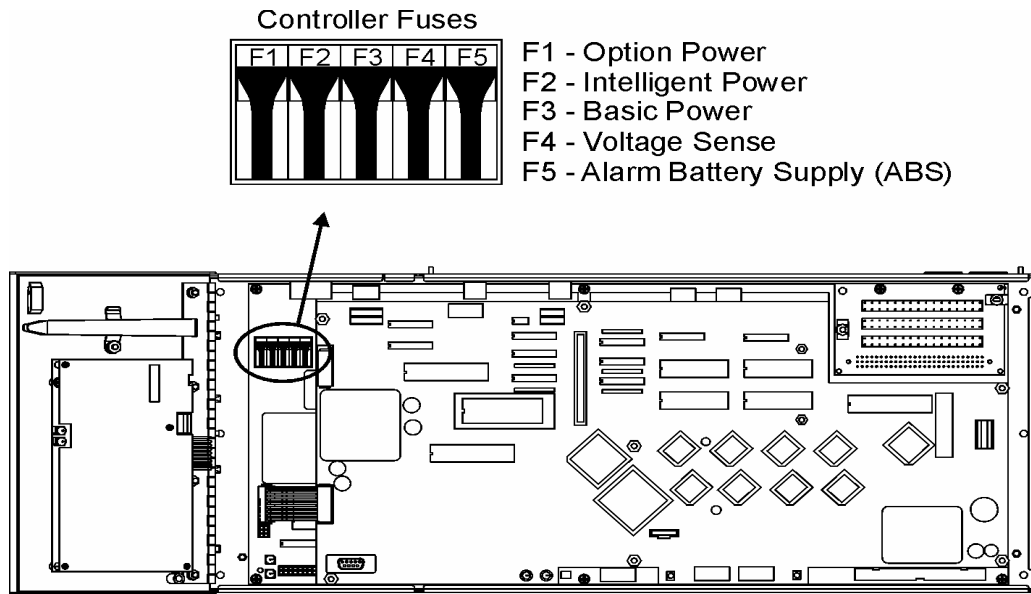

Figure 6-4: Millennium Controller Fuse Positions
a.	Using a fuse puller, remove all 5 controller fuses, BEGINNING with F1. (see Figure 6-4)